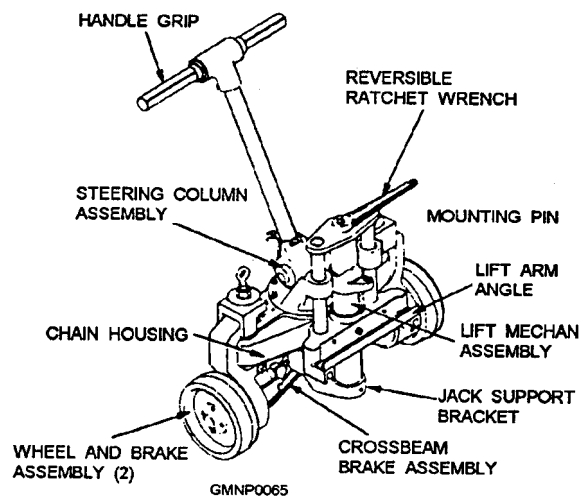
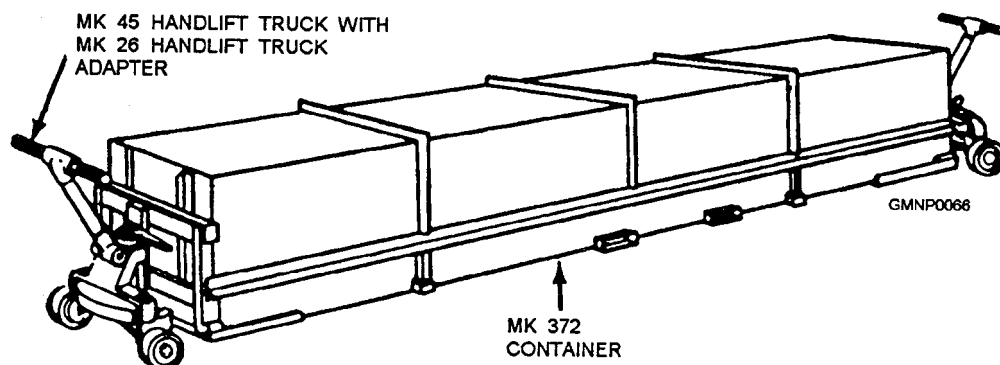

Figure 2-50.—Mk 45 Mod 1 handlift truck.
Figure 2-51.—Handling a Mk 372 container with Mk 45 handlift trucks with Mk 26 handlift truck adapters.
**HANDLIFT TRUCKS.**— The Mk 45 Mod 1 handlift truck is shown in figure 2-50. Two handlift trucks can be used to move loaded/unloaded shipping containers and stowage cradles. Figure 2-51 illustrates handling of a Mk 372 container. Two people must synchronize their efforts during steering maneuvers. They must also provide the “horsepower” to move the load